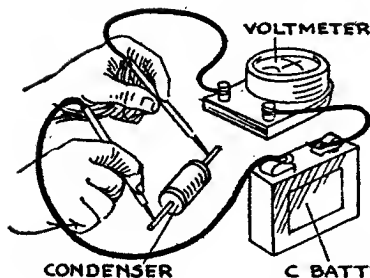

FIG. 36
*Testing A Condenser:* A fixed condenser can be tested by connecting it in series with a battery and a voltmeter as shown in Fig. 36. If the voltmeter shows a momentary deflection, the condenser is a good one. However, if a constant deflection is noted it is a sign that the condenser leaks. If the full voltage of the battery used in the circuit is registered by the meter, the condenser is short-circuited at some point.